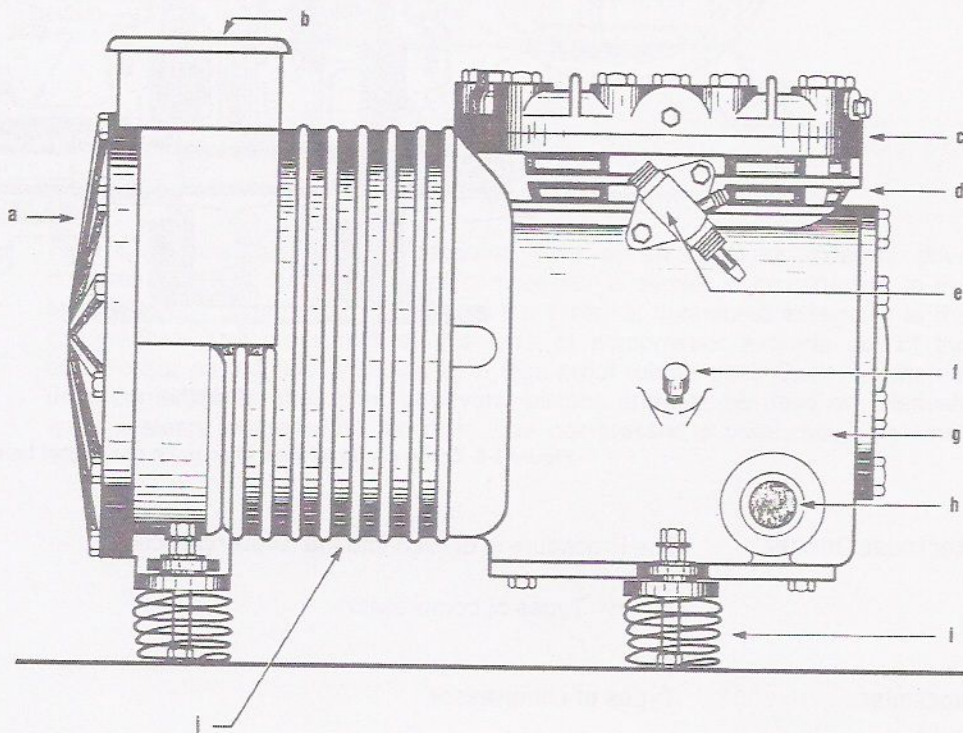

Figure 3-7. Parts of a semi-hermetic compressor.
3. Observe and list each part of the semi-hermetic compressor as indicated in Figure 3-7.